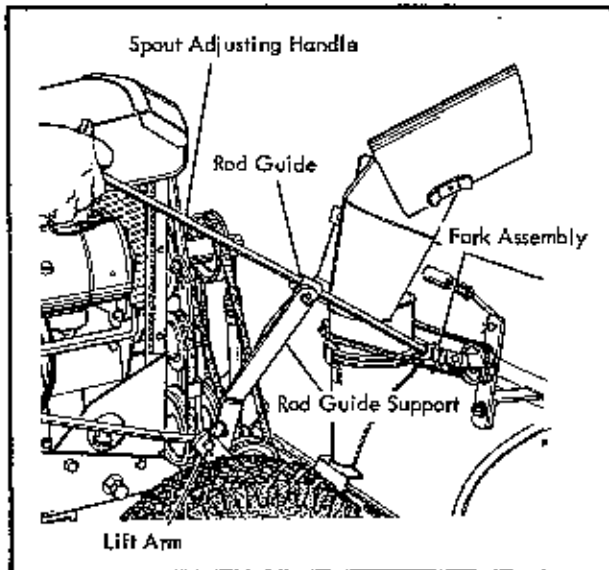

Fig. 5
5. Fasten rod guide support to the right hand lift arm and insert spout adjusting handle into rod guide before fastening rod guide to upper end of guide support. See figure 5. Rod guide must not bind or pinch as spout adjusting handle assembly must rotate freely. Assemble lower end of adjusting handle to fork assembly on adjusting pulley.